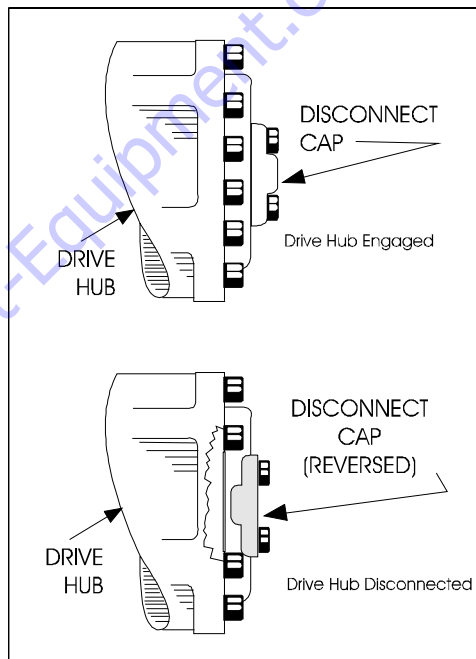

Figure 4-7. Drive Disconnect Hub
3. Disconnect drive hubs by inverting disconnect cap. Refer to Figure 4-7., Drive Disconnect Hub.